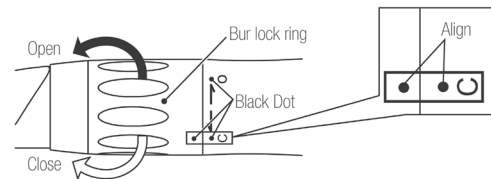

Fig. 1
1. Turn the Bur Lock Ring in the direction of mark [O] until it clicks. (Fig.1)